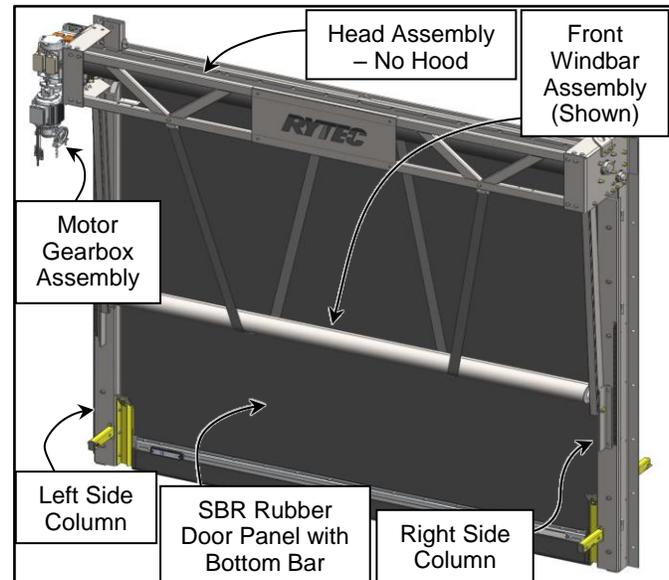

Figure 2
Figure 2 shows the location of the major components of the door and the general placement of the associated sub-assemblies for a typical installation.
*NOTE:* Figure 2 shows the front of the door. Left and right are determined when viewing the front of the door.